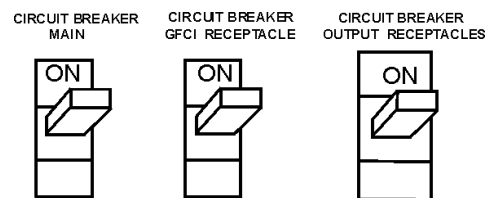

Figure 50. Main and GFCI Circuit Breakers
16. Turn the MAIN, GFCI and LOAD circuit breakers to their ON position (Figure 50).